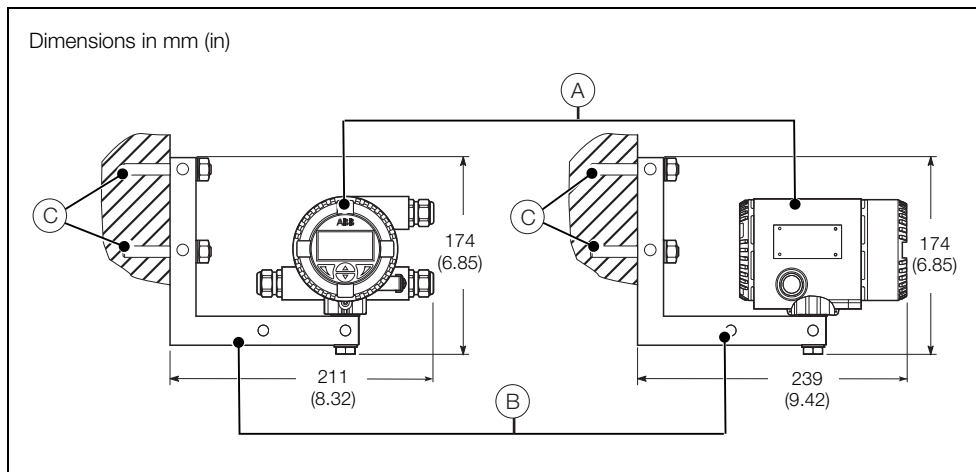

Fig. 3.4 Wall Installation
Referring to Fig. 3.4:
2. Bolt the transmitter (A) to the wall-mounting bracket (B) securely in the required position.
**Note.** The wall-mounting bracket (B) supports variable installation positions. 2 examples of the different options are shown in Fig. 3.4. The mounting bolt enables adjustable positioning (0° to 360°) of the transmitter housing.
3. Attach the wall-mounting bracket (B) to the wall securely using 2 x 10 mm bolts (C).